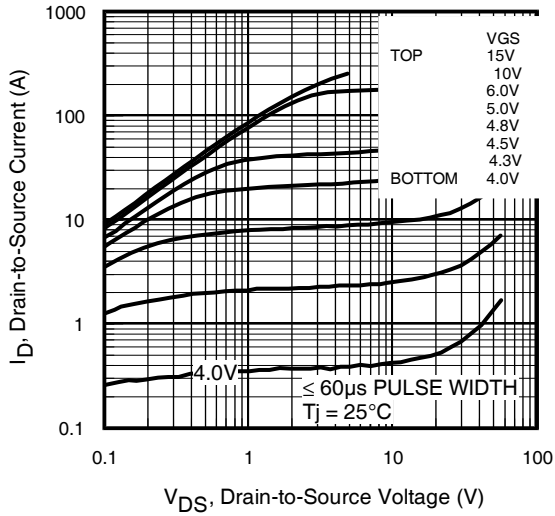
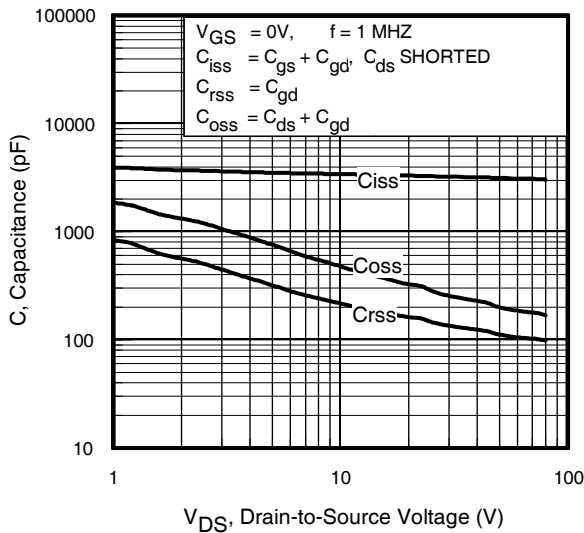

Fig 1. Typical Output Characteristics
Fig 5. Typical Capacitance vs. Drain-to-Source Voltage
| C _{iss} | Input Capacitance | — | 3180 | — | pF | V _{GS} = 0V V _{DS} = 50V f = 1.0MHz, See Fig.5 V _{GS} = 0V, V _{DS} = 0V to 80V ⑥, See Fig.1 V _{GS} = 0V, V _{DS} = 0V to 80V ⑤ |